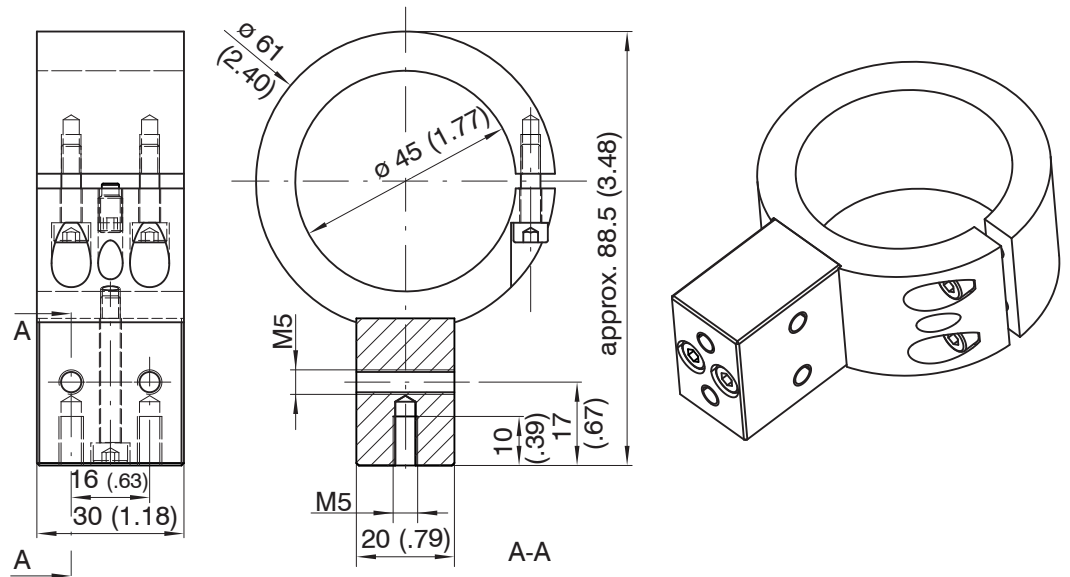

Fig. 3 Dimensional drawing mounting adapter, dimensions in mm (inches), not to scale
- ➡ Mount the rotation unit with a mounting adapter, see Fig. 3.